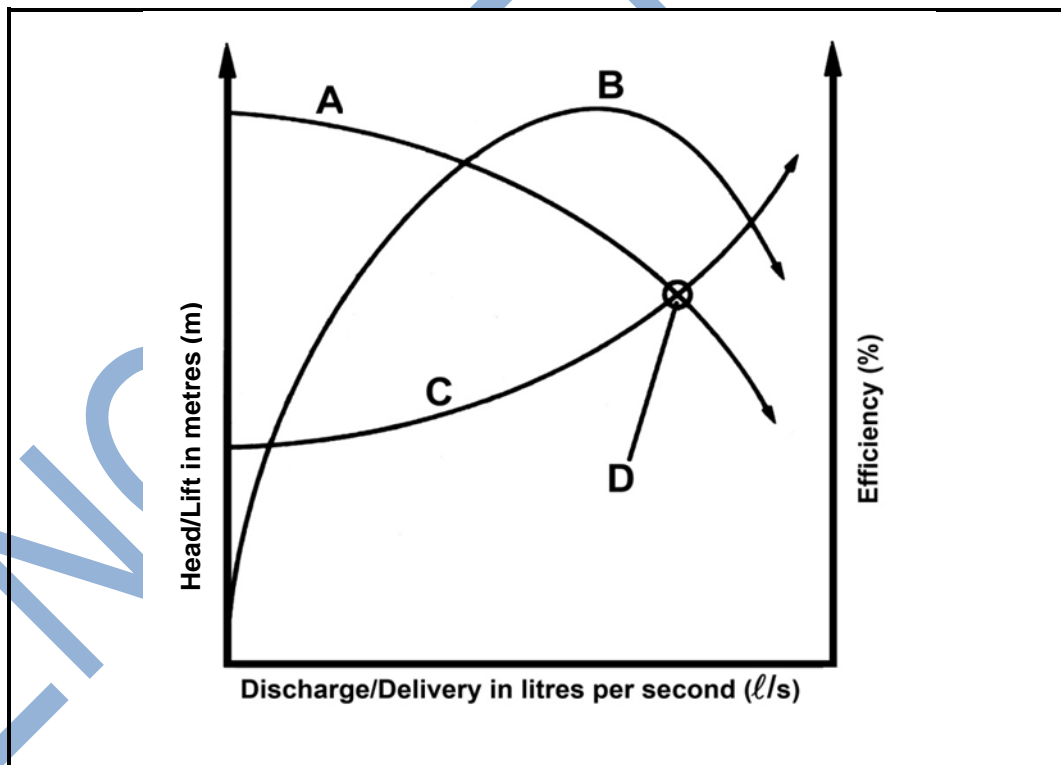

FIGURE 2
4.4 The diagram in FIGURE 2 is applicable to the operation of centrifugal pumps.